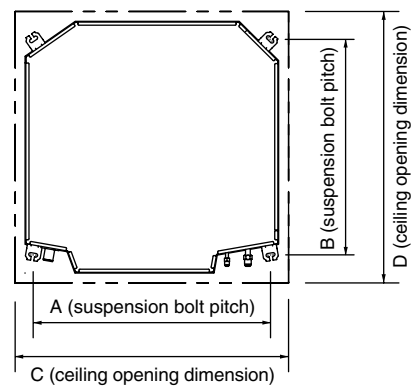

Fig. 3-2
(2) Follow Fig. 3-2 and Table 3-1 to make the holes in the ceiling.